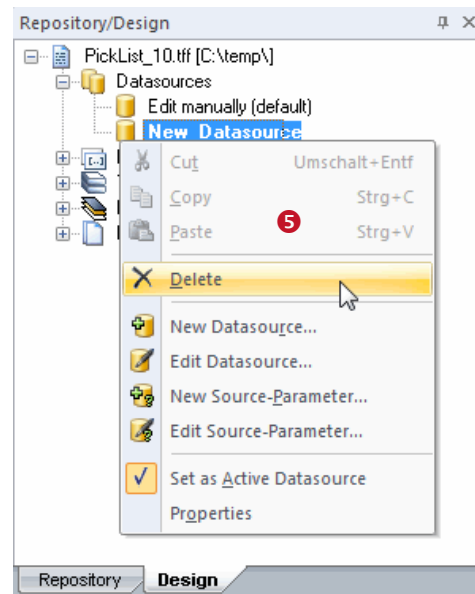

Figure 8: Delete a Datasource
If you right-click on a tree item a context menu will appear (see Figure 8, ❺). The context menu offers various functions for the selected object.